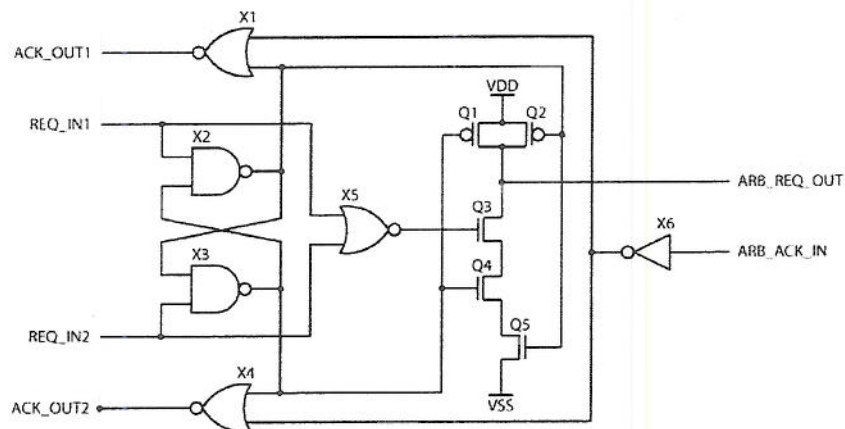

Figure 6.1
- a) A challenge in such asynchronous, event-based systems is dealing with collisions, i.e. when two senders wish to output an event at the same time. To resolve such a condition, an *arbiter* circuit can be used (shown below in Figure 6.1). Explain how this circuit operates and how it can be extended to take any number of inputs.